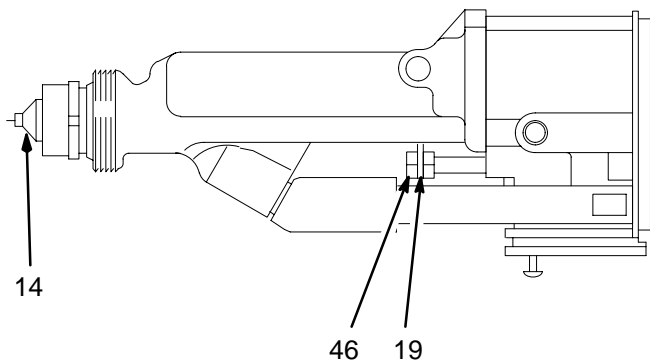

Fig. 36
3. Remove the jam nut (46) and actuator arm (19). See Fig. 36.
**NOTE:** The fluid nozzle (14) must be in place when removing or installing the jam nut and actuator arm.